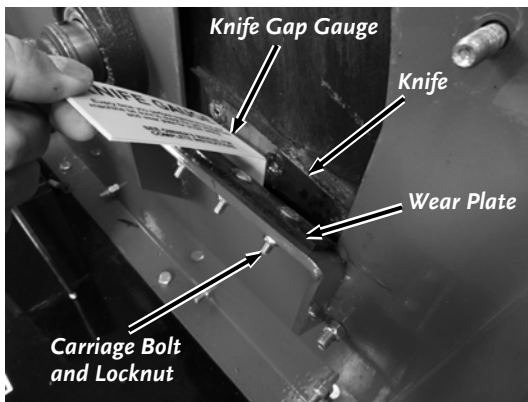

Figure 55
3. Slide the Knife Gauge in between the Knife and Wear Plate to check the clearance (**Figure 55**).
4. To adjust the Wear Plate Gap, loosen the three Nuts on the Carriage Bolts with a 7/16" Wrench just enough so the Wear Plate will move but still have a slight resistance. Now you can slide the Wear Plate up or down (in or out) to achieve the correct gap setting (**Figure 55**).